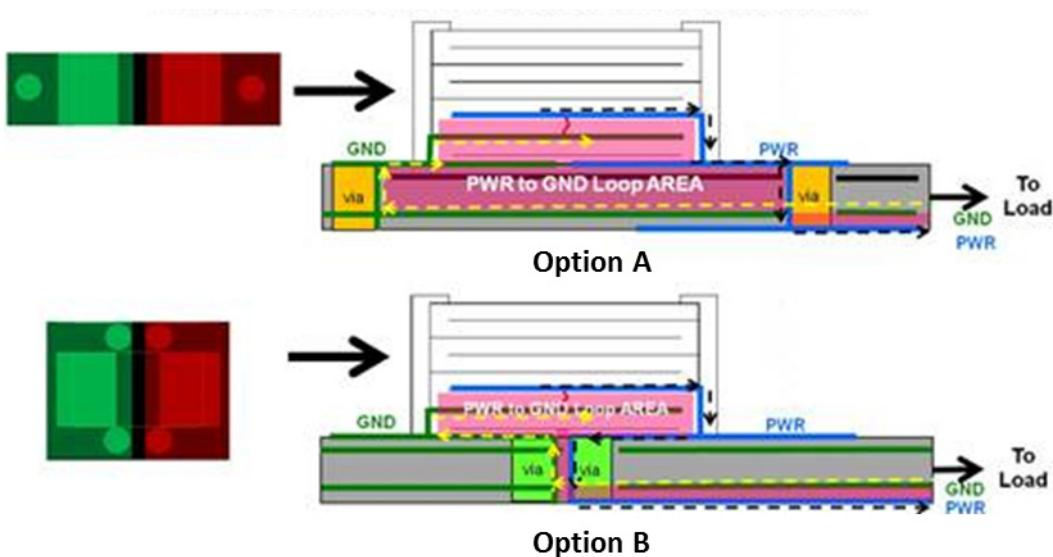

Figure 12. MLCC via Placement Influence on Loop Area
- a. Some amount of capacitance required by power supply (VR) for stable operation. That should be placed in proximity to the VR. In case of a switching power supply, place a capacitor close to the inductor for ripple currents.
- 9. Use optimal via placements next to the capacitor power and ground pads to transfer current directly to the power and ground planes. This optimizes capacitor performance and also helps in reducing loop area. In Figure 12, the Option B is a desirable configuration to minimize loop area.